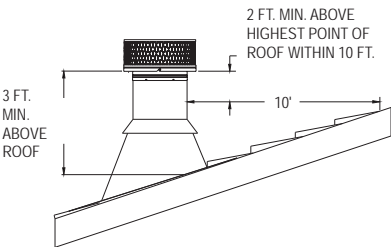
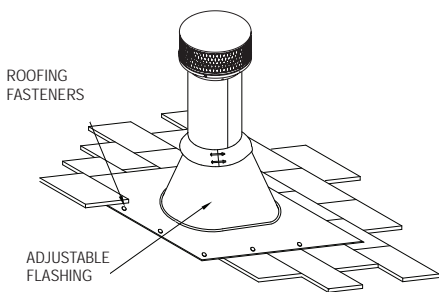

Figure 1
Figure 12
The National Fire Protection Association Standard #211 states: "Chimneys shall extend at least three feet above the highest point where it passes through the roof of a building, and at least two feet higher than any portion of a building within ten feet." (*Fig 1*) 10"-16" diameter DuraTech Chimney may be installed up to 40 feet high when using a Support Box, and up to 30 feet high when using a Tee Support. DuraTech in 18"-24" diameters is intended to be mounted directly to an appliance or masonry fireplace, and is limited in height by the allowable weight of the supporting surface, up to a maximum of 60-ft. If the chimney extends more than 4 feet above the roof, an Extended Roof Bracket must be used. Due to the overlap of the joints, subtract 3/4" from each Chimney Section's height to calculate installed height.
remains vertical (use a level), and that at least a 2-inch clearance to combustible materials is maintained all around. Install the upper edge of the Flashing under the roofing. Nail to the roof along the upper edge and down each side with 1-inch roofing nails. Do not nail the lower edge of the Flashing (*Fig 12*). Be sure to follow local building practices, as needed. Seal all nail heads with a non-hardening waterproof sealant. On flat or tarred and graveled roofs, nail and seal the Flat Roof Flashing to the roof on all sides with roofing compound. Do not put screws through the Flashing into the Chimney Pipe.
**11. Finish Top:** Apply a non-hardening waterproof sealant around the chimney at the point where the Storm Collar will meet the chimney just above the Flashing, and also along the vertical seam of the chimney pipe, where it is exposed to the weather (*Figures 12 and 13*). Slide the Storm Collar down over the chimney to the top of the Flashing. Tighten the bolts of the Storm Collar and seal the Storm Collar against the sealant. After installing sufficient Chimney Sections to meet the height requirement as shown in *Figure 1*, attach the Chimney Cap onto the top of